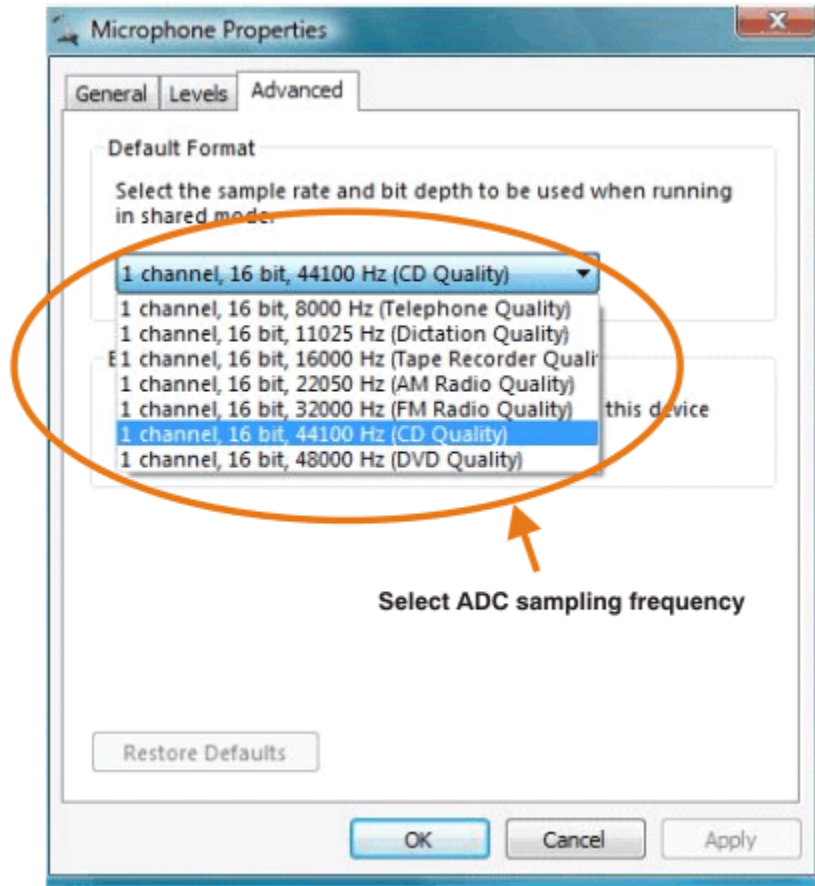

Figure 3-6. Microphone Properties—Advanced Tab (Windows)
2. Open the microphone properties of the USB audio codec from the Record options and select the *Advanced* tab, as Figure 3-6 illustrates.